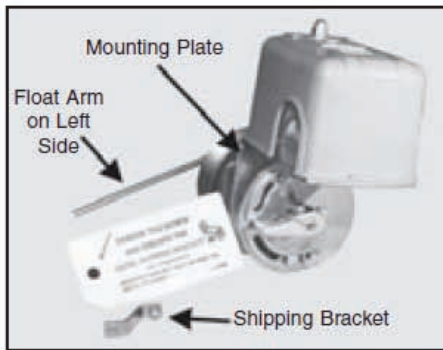

FIGURE 3—Float Switch
- B. Remove shipping brackets on float switches. Per instructions on tag attached to float switch, remove shipping bracket (See Figure 3) from each float switch or mechanical alternator as per manufacturer's instructions. The float switch has been factory set for maximum capacity of the receiver. Should an alternate setting be required, refer to the float switch manufacturer's instructions. If needed, reference Technical Articles on how to adjust a float switch or mechanical alternator: